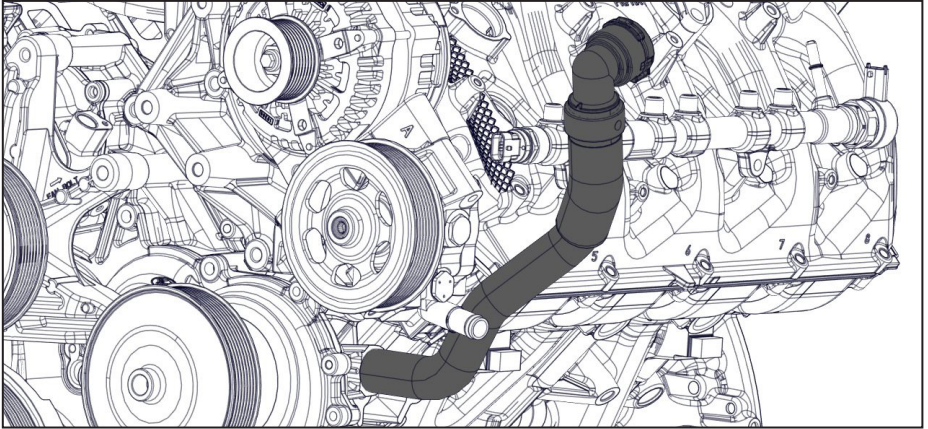

**Figure 9 — Adaptive power steering pump**
***For vehicles equipped with the optional "Adaptive Power Steering" power steering pump, relocate the upper rear bushing to the upper forward mount position (Figure 9).***